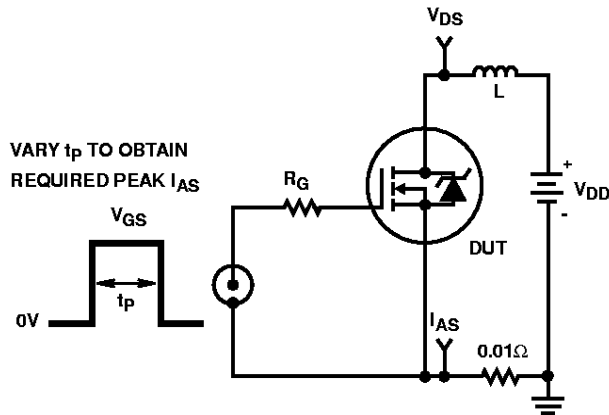

FIGURE 15. UNCLAMPED ENERGY TEST CIRCUIT
4.  $V_{DD} = 25\text{V}$ , start  $T_J = 25^\circ\text{C}$ ,  $L = 910\mu\text{H}$ ,  $R_G = 25\Omega$ , peak  $I_{AS} = 5.6\text{A}$  (See Figure 15, 16).